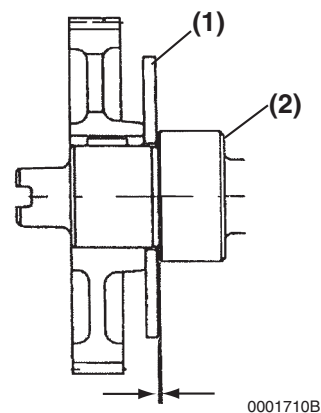

Figure 6-93
- Method B:** Use a feeler gauge to measure the clearance between the thrust plate (**Figure 6-93, (1)**) and front camshaft bearing (**Figure 6-93, (2)**). See *Thrust Bearing* on page 6-14 for the service limit.